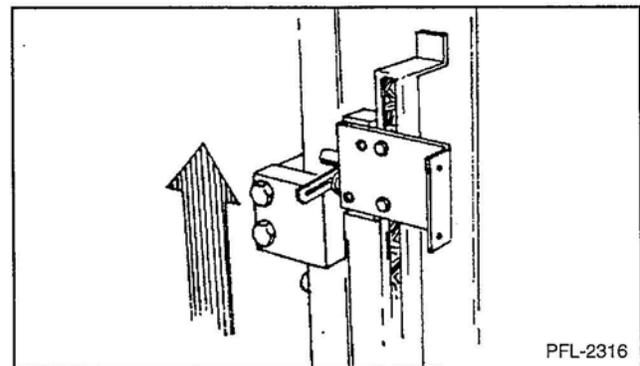

Figure 38
47. Install overtravel limit switch as illustrated. The overtravel limit switch bracket is the same as the level limit switch bracket but is positioned slightly different to allow this switch to be activated by the wheelblock shoe. The location of this switch should be such that it is just above the second level limit switch but will not activate unless the second level limit switch does not function and the carriage continues to go up. See Bulletin 188 for supplemental information. See Figure 38.